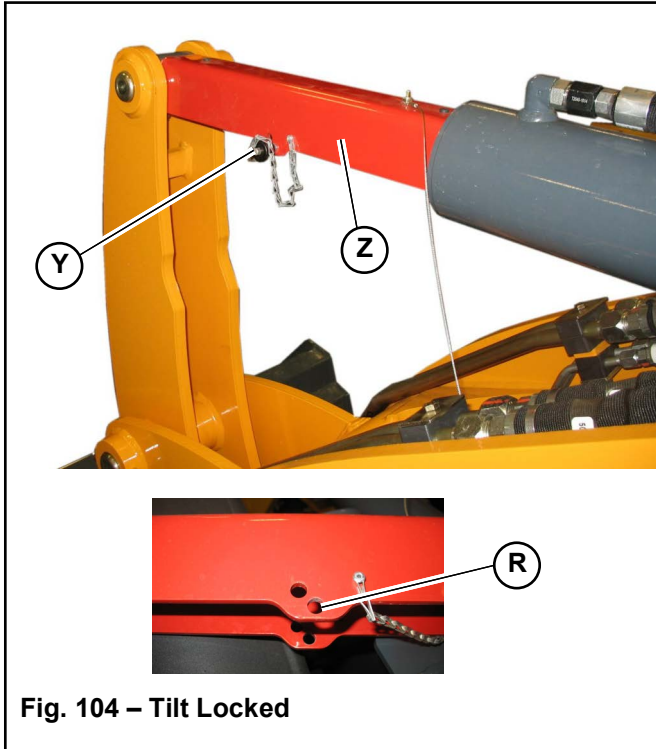

**Fig. 103 – Tilt Cylinder Extended**
- Tilt the attachment hitch forward until the tilt cylinder is extended far enough to allow lift structure support (Z, Fig. 103) to fit over the tilt cylinder rod.